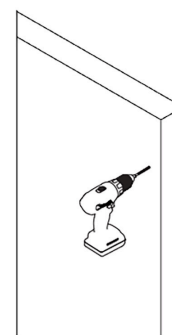

FIGURE 8
Place Wall Channel (C) on top of Curb Channel (D) and "centerline" up wall. Once the Wall Channel (C) is plumb, use a pencil to mark the holes for drilling. Depending on the support behind the wall, Plastic Anchors for Channels (J) may or may not be required. If you are unsure, use the Plastic Anchors for Channels (J) to be safe. If using an anchor, use 3/16" drill bits to drill holes on the specified marks. If wooden support is present and no anchor is required, use 1/8" drill bits to drill holes on specified marks (See Figure 8)